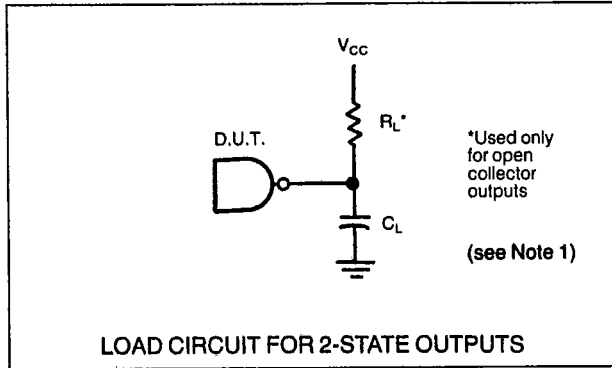

FIGURE 6
- 1 Standard TTL load circuit used for macro specification, see Figures 6 and 7. CL includes probe, jig and package.